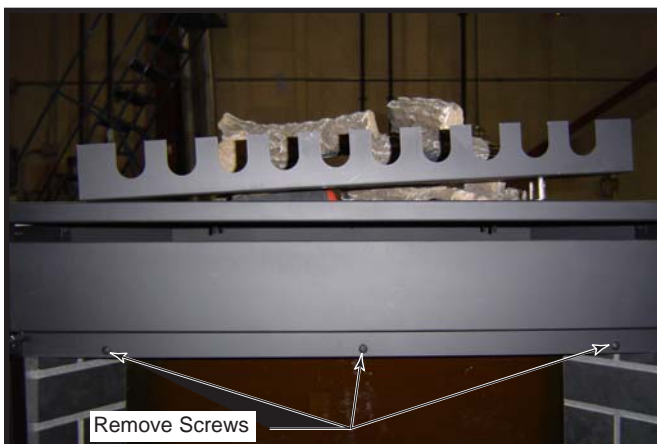
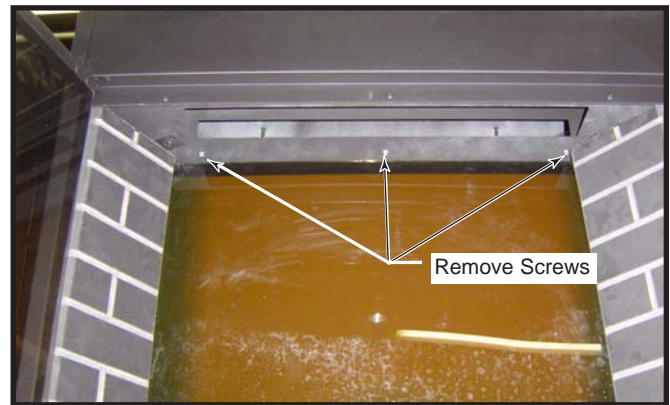

Fig. 2 Remove three (3) screws on front of unit.
Fig. 3 Remove three (3) screws located under top shelf.
4. Locate the screws that hold the front cover in place. There are six (6) screws, three (3) located on the front of the unit (Fig. 2), and three (3) located underneath the top shelf of the unit. (Fig. 3)